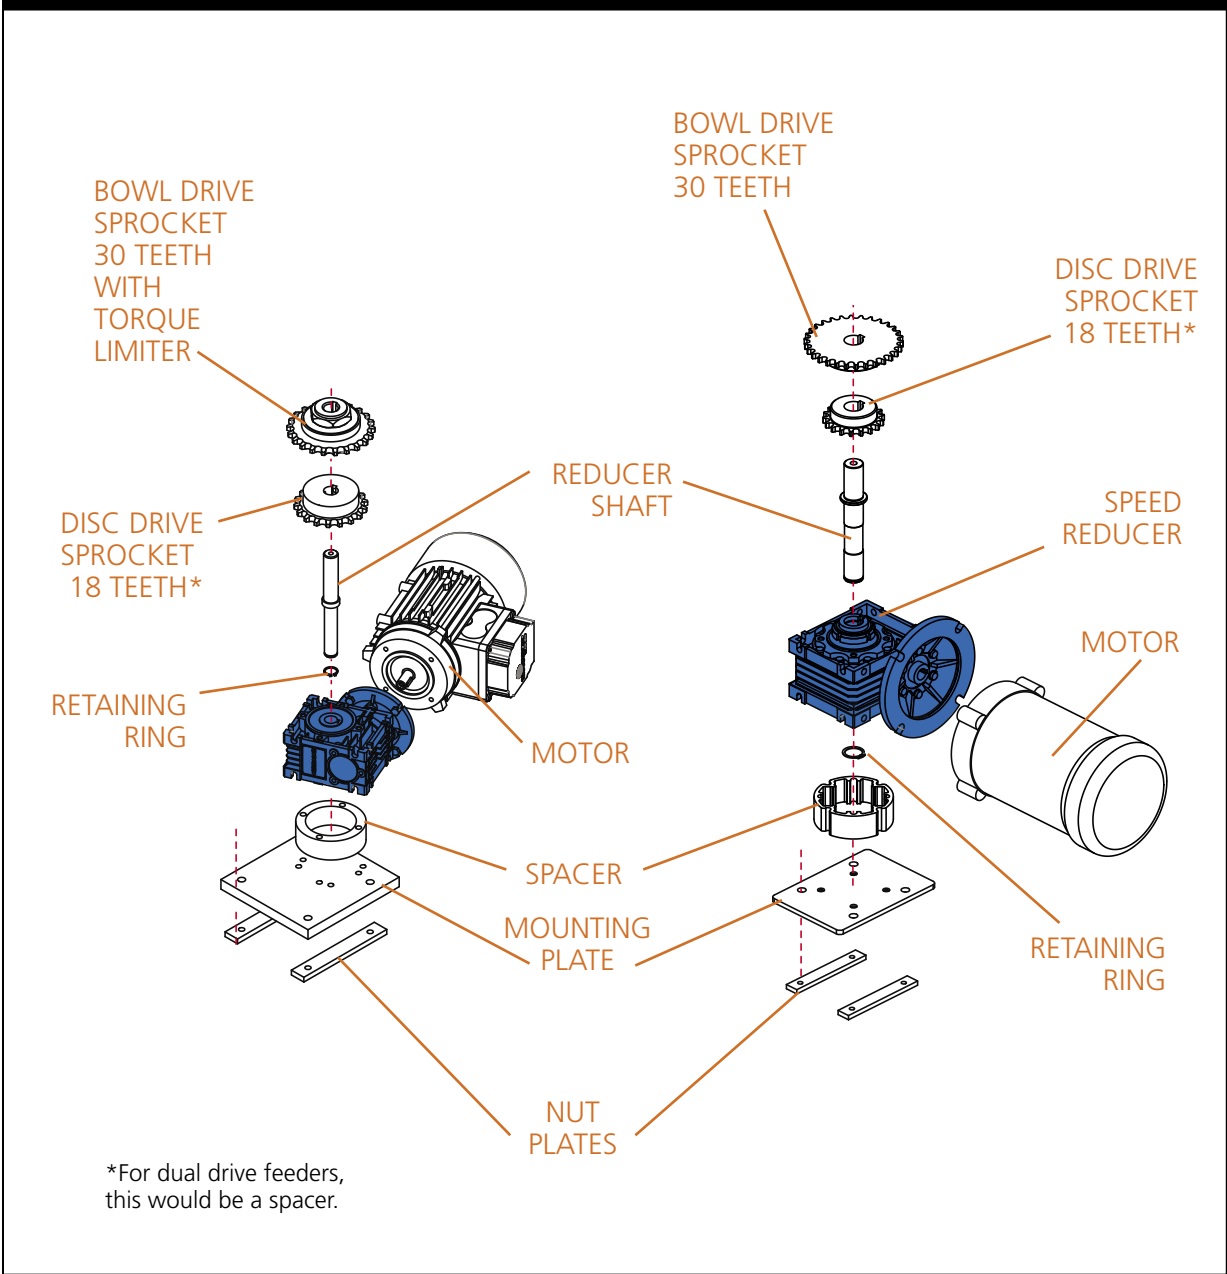

Figure 5-3. Typical FT-20-RD Single Drive Assembly (Right) and FT-30-RD Single Drive Assembly (Left)
**Step 5—Assemble Output Shaft.** The output shaft on the speed reducer comes as a separate kit. If replacement is required, clean both contact surfaces before assembly and apply any appropriate anti-seize compound to avoid oxidation (rust) and possible seizing of parts. Slide the sprocket(s) down onto the reducer output shaft. You will need to adjust the height of the sprocket(s) to match the heights of the corresponding sprocket(s) on the spindle assembly (see Figure 5-3 on the following page regarding the order). Tighten setscrew. The speed reducer used in the feeder is lubricated for life with synthetic lubricant and requires no filling before use.